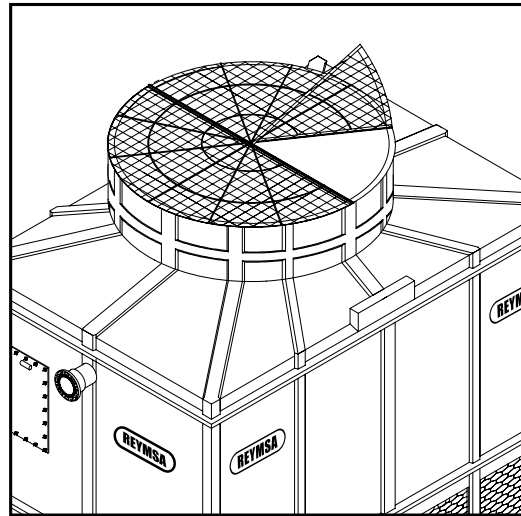

Figure A-123: Fan guard access door for RTGM and RTGMTC models.
- Z. Fan Guard section has an access door to allow perform maintenance inside the fan Deck. (see Figure A-123).